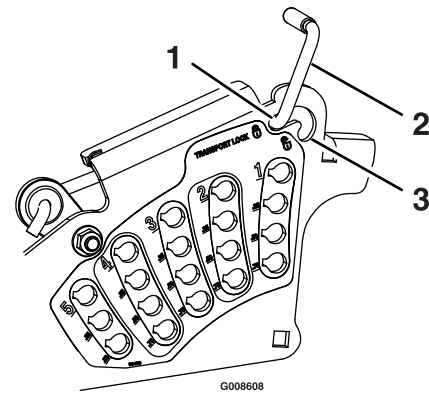

Figure 14
Position in the transport latching position to automatically latch the cutting deck when raised to the transport position (see item 1 in Figure 14).
In the non-latching position, the deck will automatically return to the cutting height when the pedal is lowered (see item 3 in Figure 14).